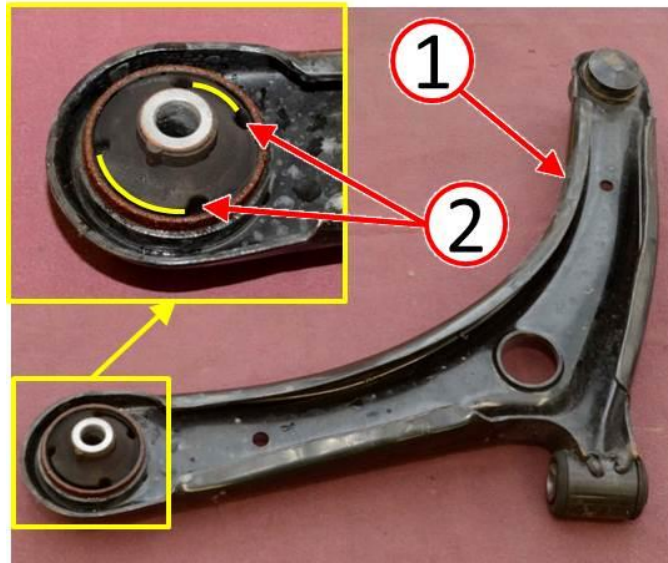

Fig. 1 Lower Control Arm
2. Remove both front lower control arms (1) (Fig. 1). Refer to the detailed service procedures available in DealerCONNECT> TechCONNECT under: Service Info> 02 - Front Suspension> Front> ARM, Lower Control> Removal.
3. Area of bushing squeak concern (2) is identified in (Fig. 1).